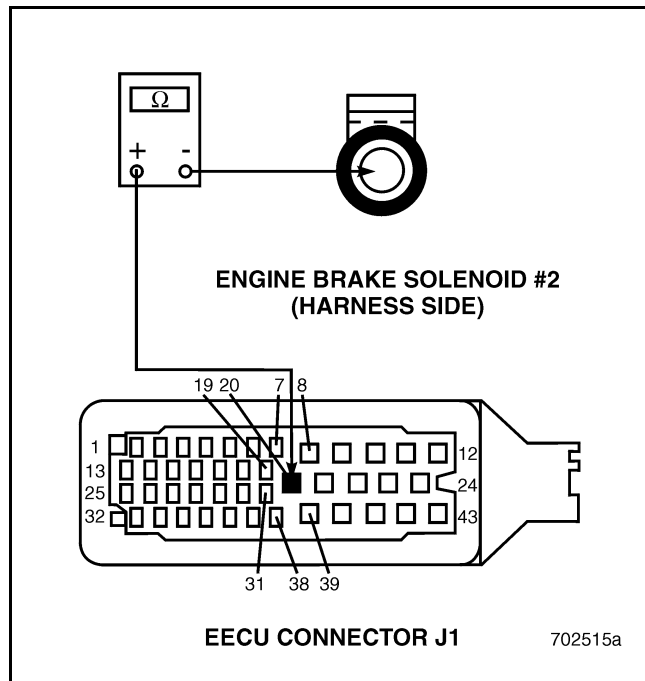

Figure 431
4. Check for continuity between EECU harness connector J1, pin 20 and the terminal of the Engine Brake Solenoid #2 harness connector (see Figure 431).